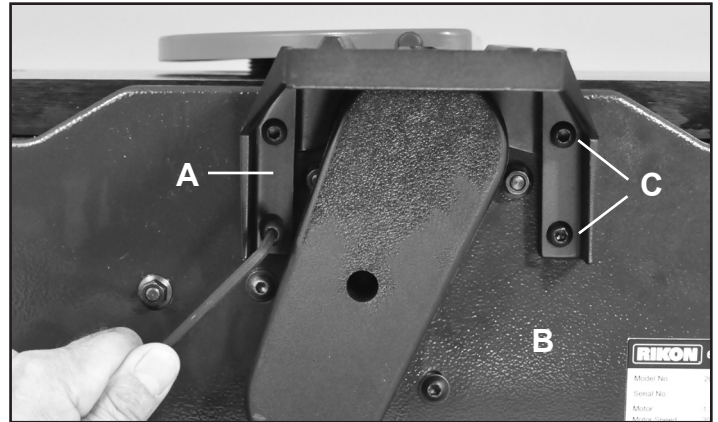

FIG. 1
1. Assemble the Fence Bracket (A) to the jointer base (B). Use the four Socket Button Head Screws (C) to lock the bracket in place. FIG. 1.